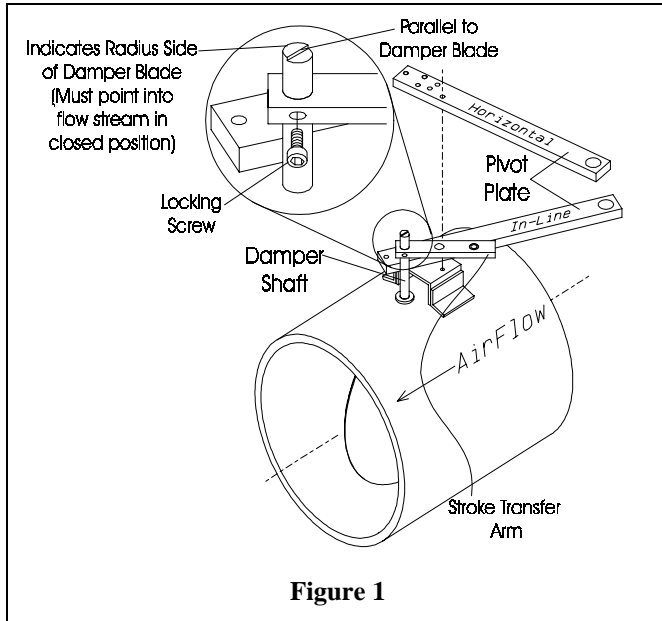

Figure 1
2. A Pivot Plate is provided separate from the damper assembly. The plate has a series of holes to allow for each mounting option. Each hole in the plate is marked either "I" or "H", "I" indicating the hole is used for "In-Line" mounting, and "H" indicating the hole is used for "Horizontal" mounting. In Fig. 1, the pivot plate is shown in each configuration.
- After mounting the pivot plate in the desired position, refer to Fig. 1. The Damper Blade has a radius on one side of it, and airflow must be directed toward that side of the blade when the damper blade is in the closed position. Note that the damper shaft has a notch cut in the end that allows a visual check of the position of the damper blade. The rounded portion of the shaft end designates the side of the blade that has the radius.